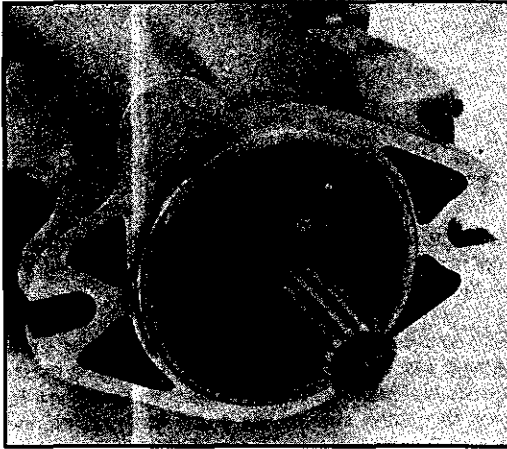

Figure 6. Pump Pilot Flange
1. Direct Mounting - A pilot on the pump mounting flange (Figure 6) assures correct mounting and shaft alignment. Make sure the pilot is firmly seated in the accessory pad of the power source. Care should be exercised in tightening the mounting screws to prevent misalignment.